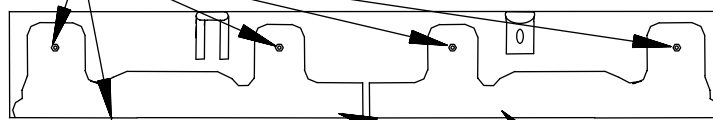

FIGURE 3.
1. Remove the (6) bolts holding the (2) fascia support brackets. Return the fascia support brackets and fasteners to vehicle owner for reinstallation if hitch is removed. (**Figure 3. above**)